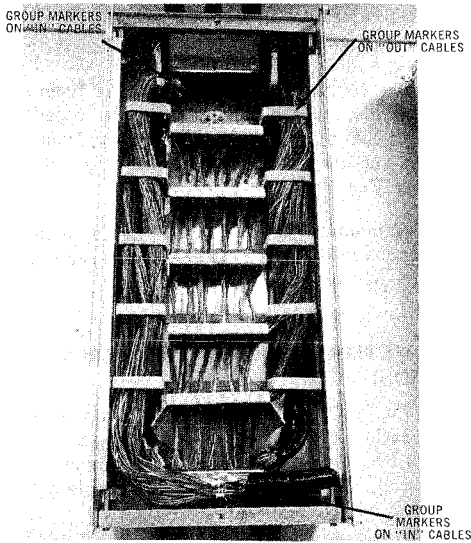

Fig. 3 - Installation of Unit Group Markers
5.04 Before removing the unit binder, wrap each binder group of the IN and OUT cable (or cables) with the cable unit marker using the number that corresponds with the group. (e.g., Blue, White — No. 1) unless a change is required to correspond to the Continuous PIC Sheath Count. Place the markers both near the sheath opening and at the clear and capped end of the IN cable. (See Fig. 3).
**7.06** Feed each 25 pair binder group through the back row of holes in the wiring bracket in accordance with the colour code and pair count indicated on the front of the distributing bracket. Figures 3, 4 and 5 give a top view of the distributing brackets.